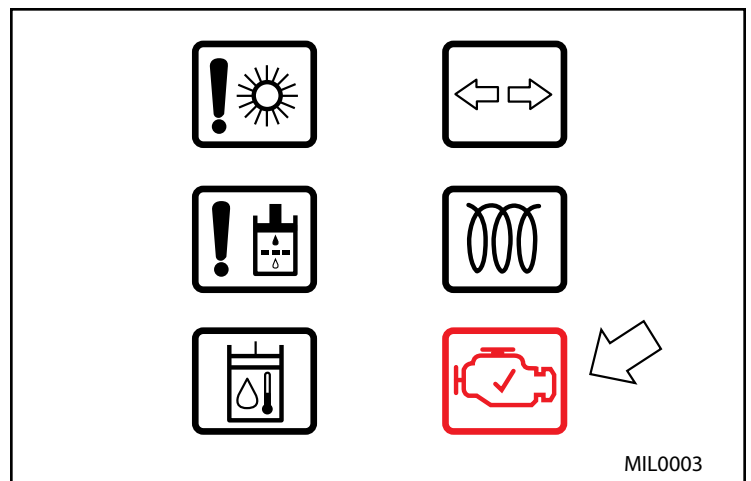

Figure 3
Turn the key On, engine Off and observe the MIL (Malfunction Indicator Lamp) on the instrument panel (See figure 3). Tier II engines blink (3) 3 or 4 digit codes beginning with 1654. The 1654 code indicates ECM diagnostic routines are functioning properly. Any codes present in addition to 1654 are actual DTCs that require further investigation. Write down all DTCs before clearing DTCs.